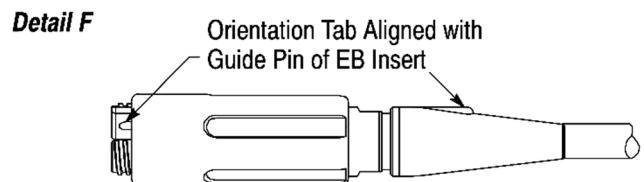

Figure 14
22. Apply the O-ring grease to the front and back and to the outside diameter of the cable seal. Also, apply the grease around the cable jacket between the cable seal and the washer. See Figure 14, Detail A.
23. Apply a *thin film* of the O-ring grease to the inside edge of the extension (this is necessary to prevent damage to the O-ring of the housing). See Figure 14, Detail B.
24. Slide the extension over the collet nut and into the grip ring. Thread, then hand-tighten the extension onto the housing. Using the 14-mm open-end wrench, tighten the extension to a torque between 4 and 6 N·m. See Figure 14, Detail B.
25. Apply the instant adhesive completely around the cone and in the groove of the extension. See Figure 14, Detail C.
26. Slide the boot over the cone of the extension until it is tight against the shoulder of the extension. See Figure 14, Detail D.
Immediately rotate the boot so that the orientation tab is aligned with the top of the bench-mount assembly fixture. See Figure 14, Detail E. Remove any excess adhesive.
27. Remove the connector assembly from the bench-mount assembly fixture and verify that the orientation tab of the boot is aligned with the guide pin of the EB insert. See Figure 14, Detail F. If it is not, rotate the boot until it is aligned.